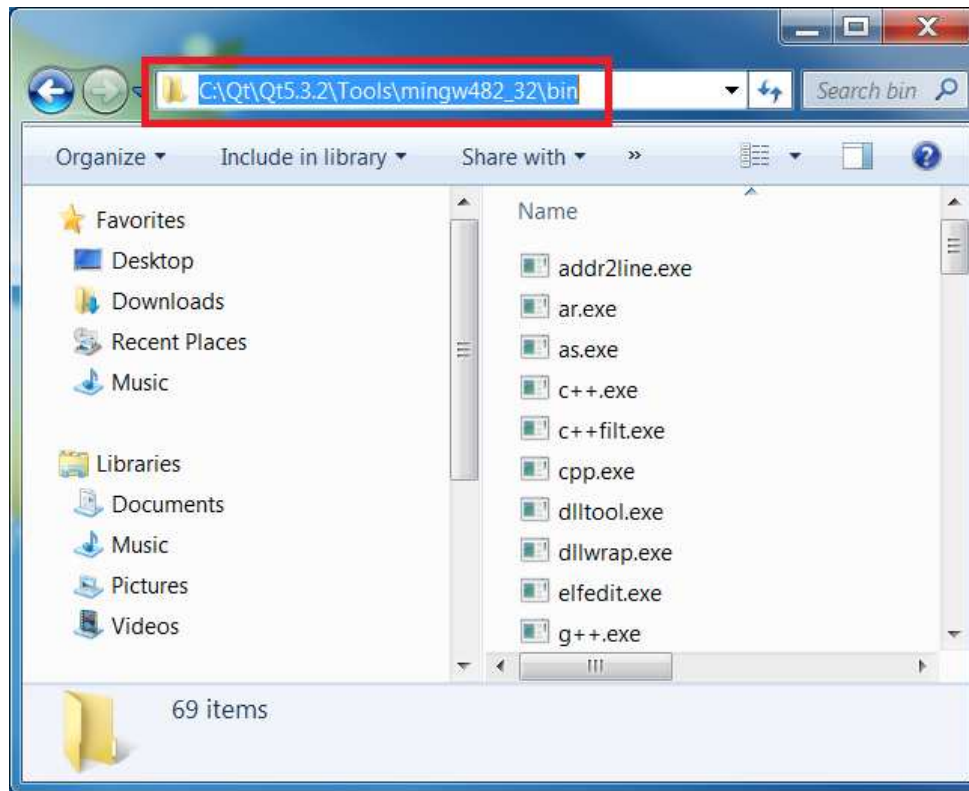

Figure 10. MinGW Path
1. Using File Explorer, navigate to the Qt installation location and find the MinGW binary folder location. Copy the path. In this example, shown in Figure 10, the path is C:\Qt\Qt5.3.2\Tools\mingw482_32\bin